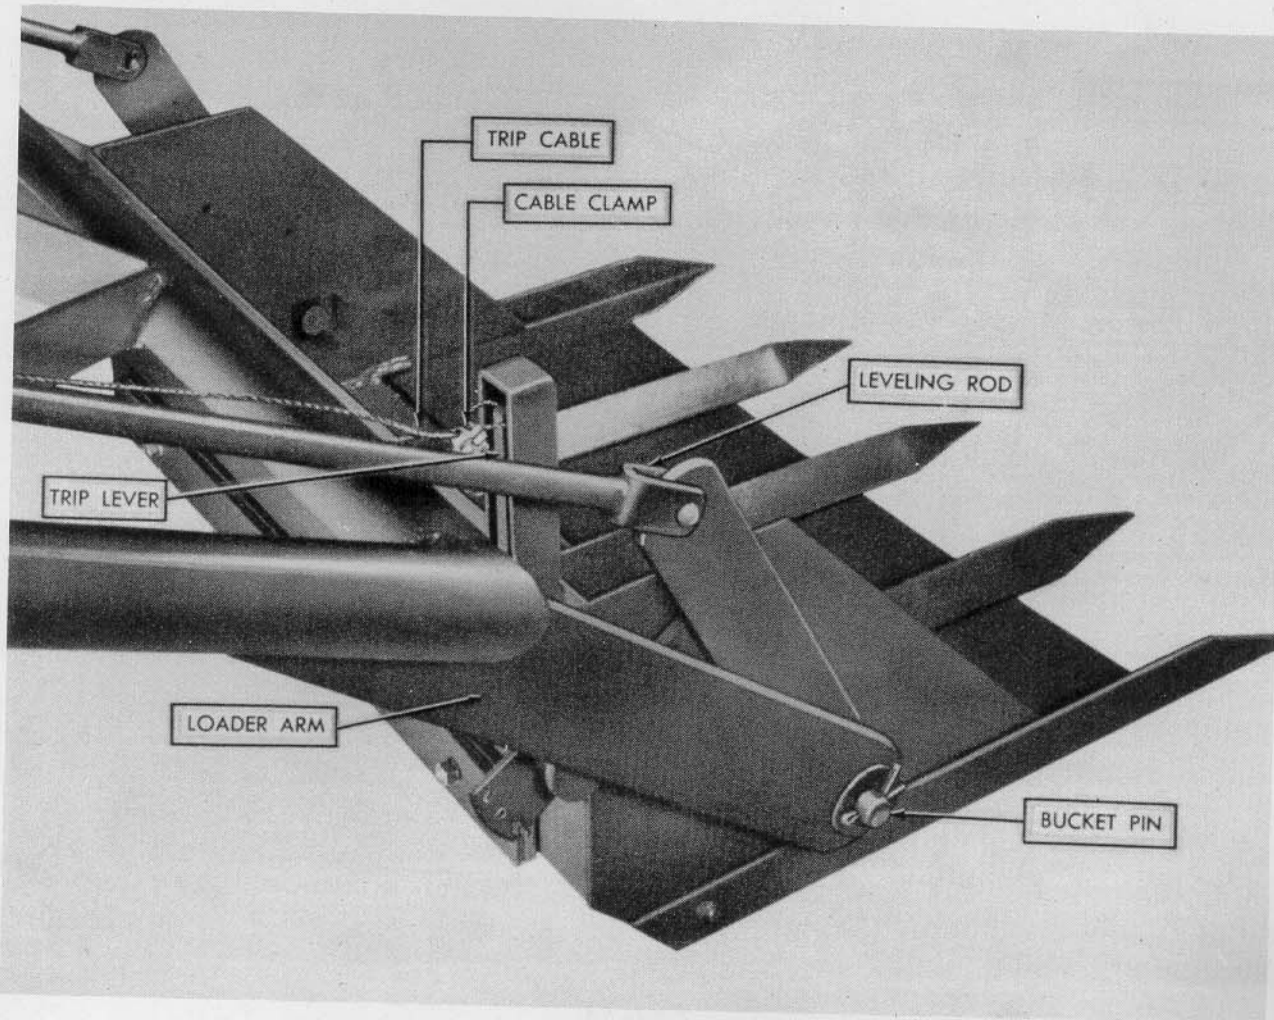

Figure 15
- a. Remove the bucket pins from the bucket, see Figure 15, to permit removal of the wooden spacer.
- b. Position the bucket between the loader arms and insert the bucket pin through the hole in each side of the bucket and loader arms. Secure with washer and cotter pin. See Figure 15.
- c. Attach the clevis end of the leveling rods to the upper end of the bucket pivoting arms with drilled rivet and cotter pin. See Figure 15.
14. Attach the trip cable to the bucket trip lever as shown in Figure 15. Use the cable clamp provided in the small carton.